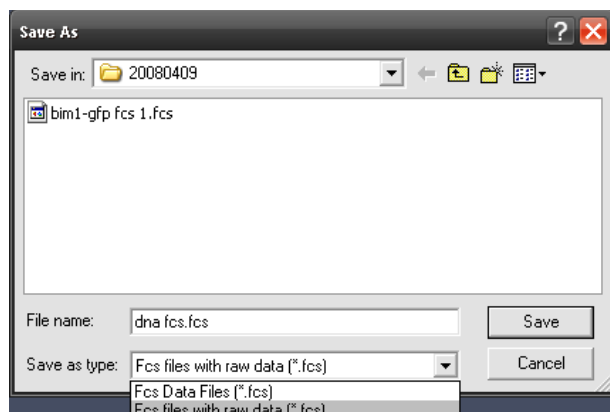

Fig. 372 Save Raw Data window
- **Save as** allows you to save the whole data set (curves, fitting results, fit parameters, raw data) to a disk. If **Save as** is pressed you will have the choice between **FCS data files (.fcs)** without raw data or **FCS files with raw data (.fcs)** attached by selecting the appropriate settings from the pull-down menu (Fig. 372).